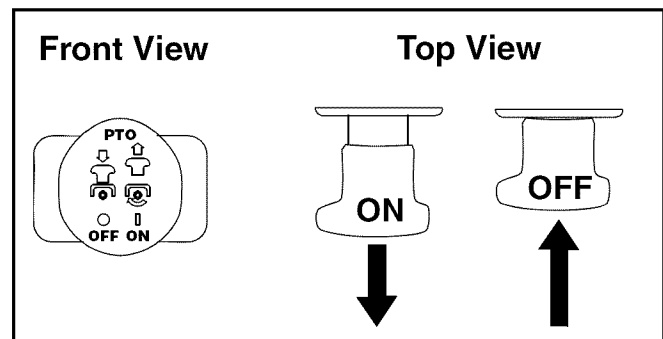

Figure 7
- Pull the PTO/Blade Engage knob outward into the engaged (ON) position. See Figure 7.